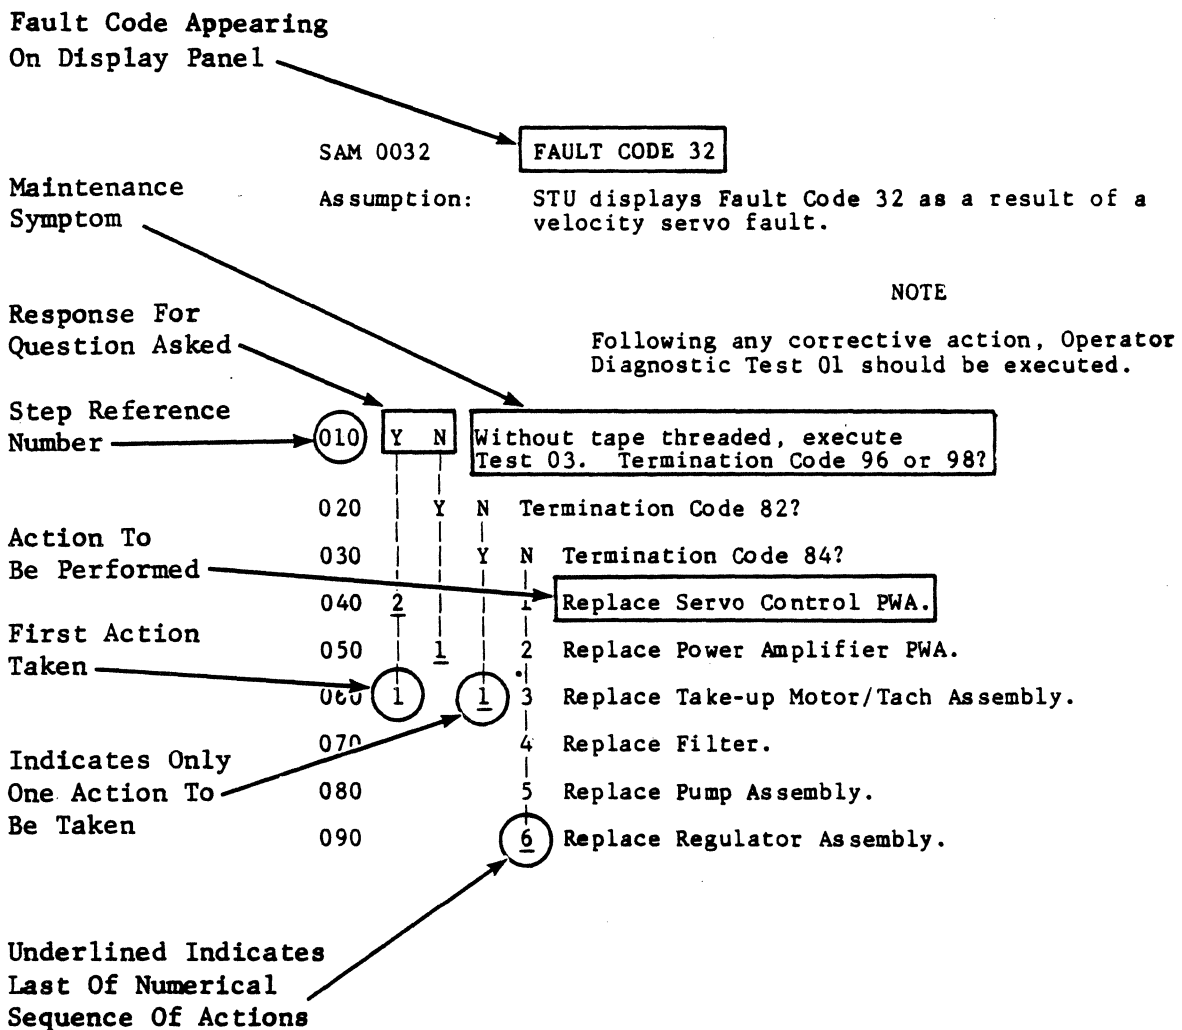

Figure 6-2. Example of Structured Analysis Method (SAM) Table
After a fault code appears on the display panel, refer the fault code number directly to the corresponding number of the SAM which are listed numerically on subsequent pages. The basic SAM format (figure 6-2) uses YES (Y) or NO (N) responses to sequential conditions to lead the customer engineer to appropriate corrective action.